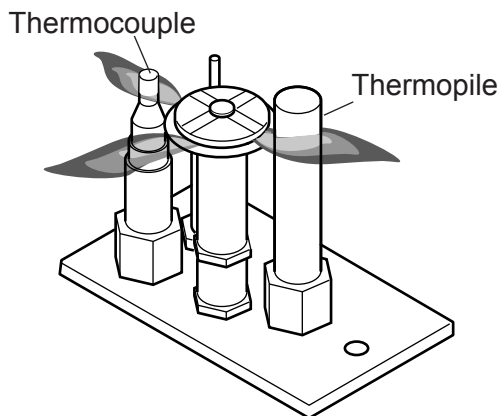

Figure 43 - Before taking unit apart, check pilot flame. Flame should touch thermocouple and thermopile
1. Check pilot flame. Flame should touch approximately $\frac{3}{8}$ " of the top of thermopile and touch top of thermocouple. See *Figure 43*. If not, contact dealer for service.